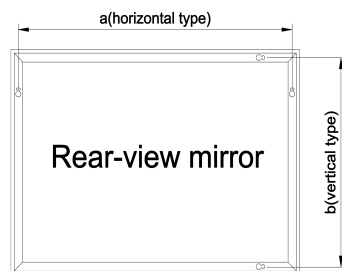

Fig. 2
1. Make certain the wall is solid, and use the flexible rule to measure the centre distance between two hardy holes on the mirror frame ("a" and "b" in Fig.2).
2. Use the flexible rule to measure the centre distance between two hardy holes on the wall ("a" and "b" in Fig.2), and mark them out with a pencil.